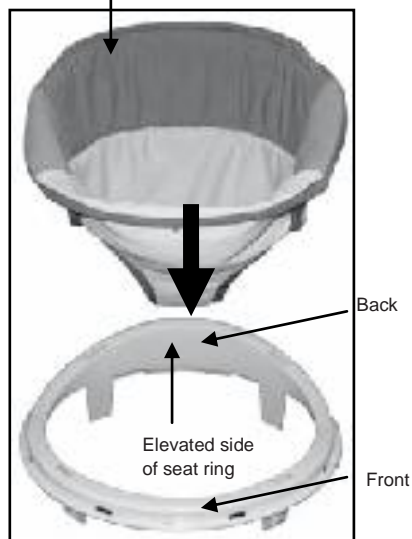

Figure 8
- Inserting the tabs on the seat pad into slots located around the seat ring, as per **Figure 8**.